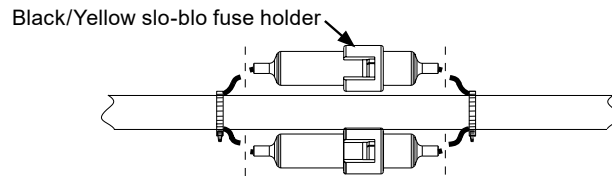

Figure 1: Cut Wires to Slo-Blo Fuse Assemblies and Remove Assemblies
1. Cut wires as close as possible to both sides of slo-blo fuse holders and remove fuse holders. See Figure 1.